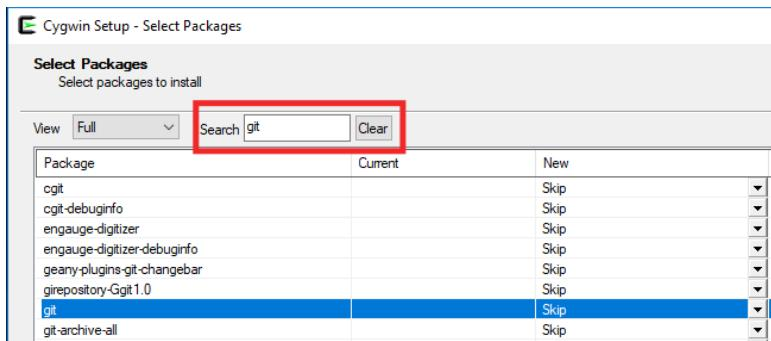

Figure 89. Look for the `git` package
- Look for the `git` package in the **Search** box (Figure 89).